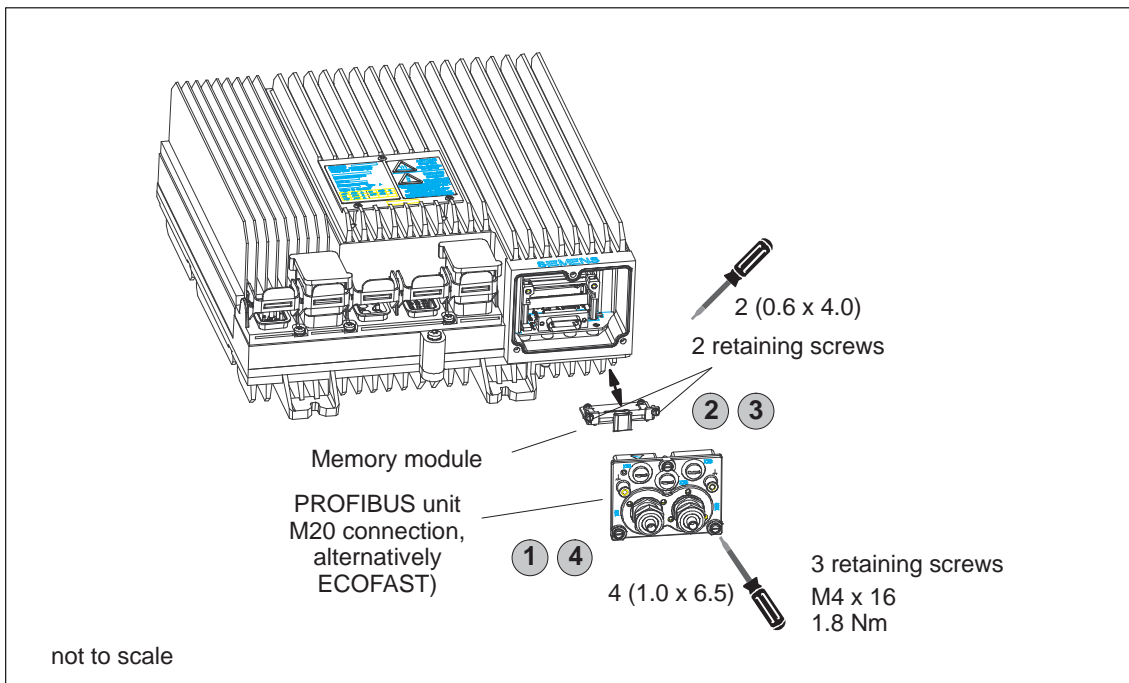

Fig. 8-2 Replacing the memory board for POSMO CD and POSMO CA
- POSMO CD/CA —> refer to Fig. 8-2